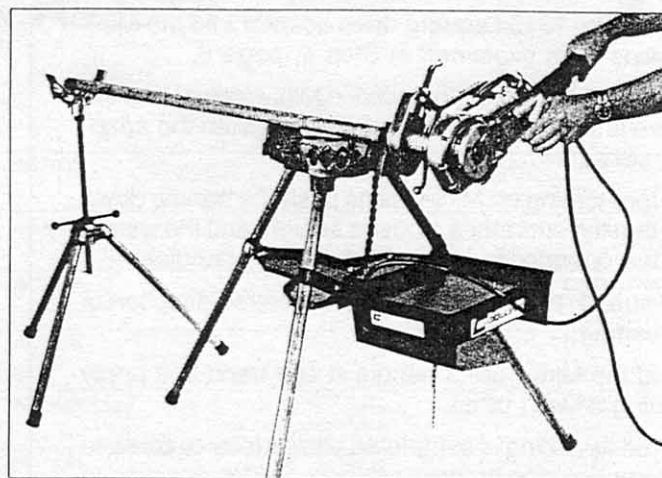

Figure 14 — Mini-Collins with Chain Vise and Material Supports
12. For operator safety the Collins Chain Vise and Tripod Assembly and Material Supports should be used when threading any non-stationary material. (Fig. 14)